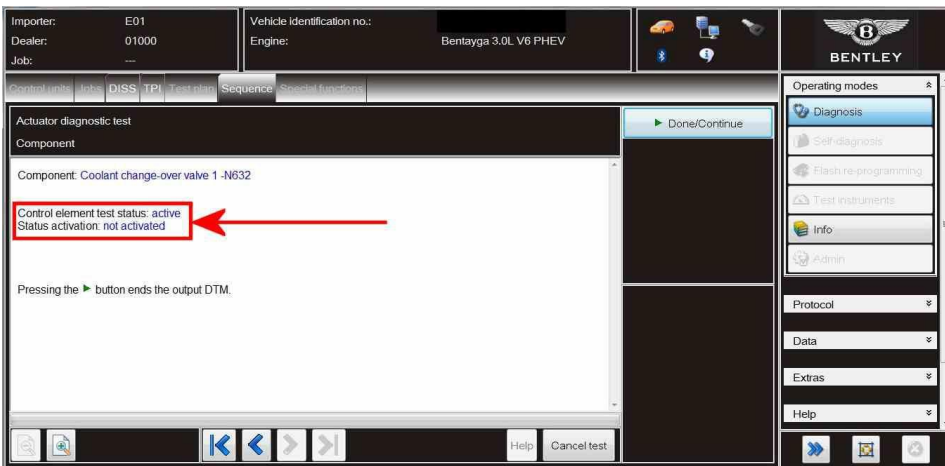

Figure 4
- Referring to Figure 4 - The status should be as shown
5) Should the status change periodically during the test as shown in Figures 4 and 5 this is to specification - Select Done/Continue to end the test
In the event the status does not change as shown in Figures 4 and 5 or the DTC cannot be erased, please raise a DISS query and await feedback from Product support before carrying out any further work